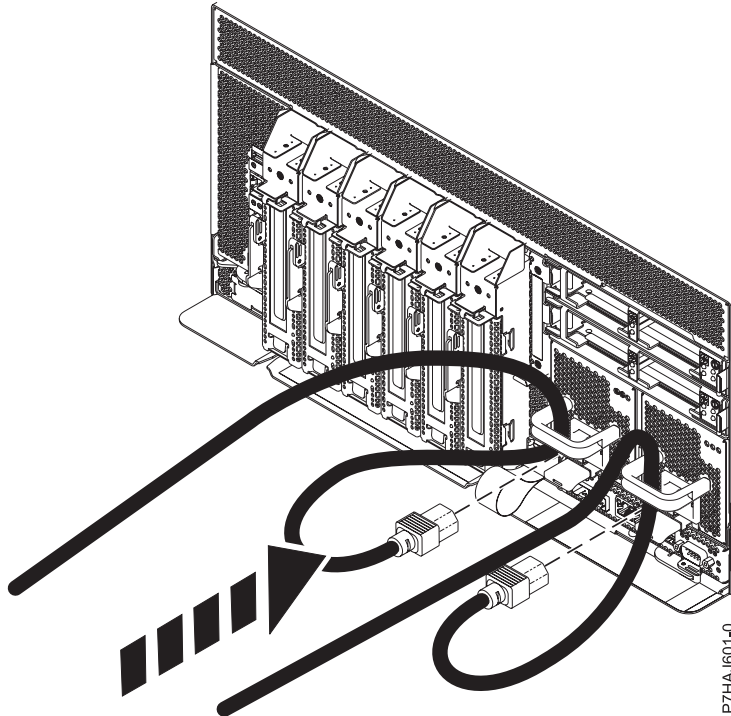

Figure 61. Connecting the power cords
2. Reconnect the power cord to the system unit as shown in Figure 61 on page 117. Ensure that the cords are threaded through the handles.